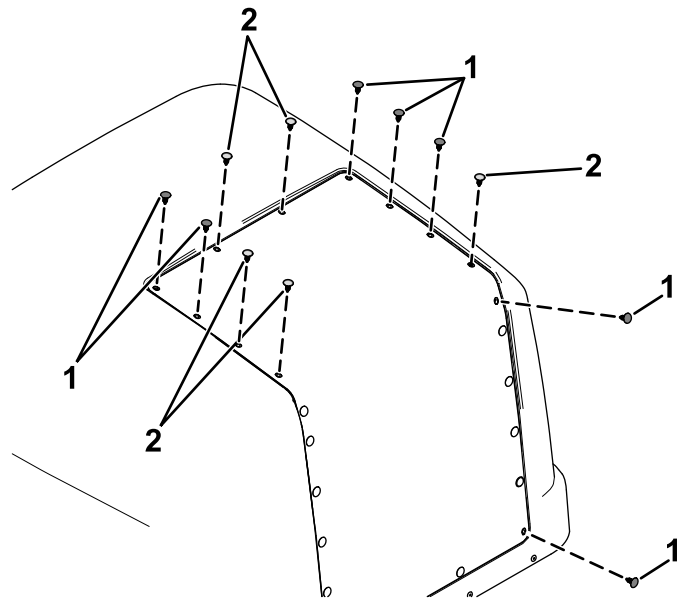

Figure 23
9. Remove the 12 plastic plugs shown in Figure 23 from the hood.
- Retain the 5 plugs shown in Figure 23
- Discard the 7 plugs shown in Figure 23